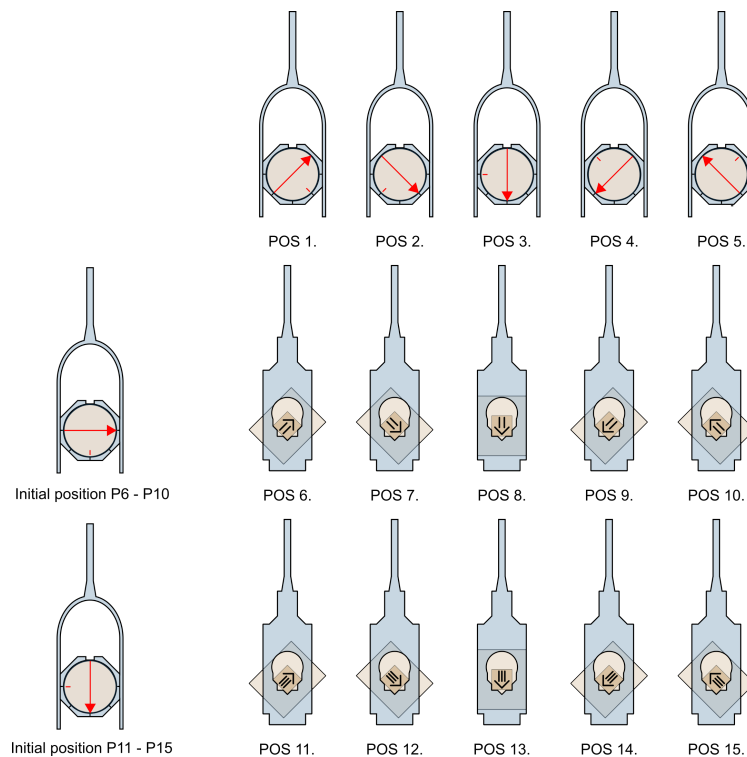

Figure 5: 15-direction AMS measuring design for cylindrical samples
- Measure another specimen (bulk susceptibility measurement) or measure next position in the 15-direction measuring design (manual measurement of the AMS, see. Figs.5,6).